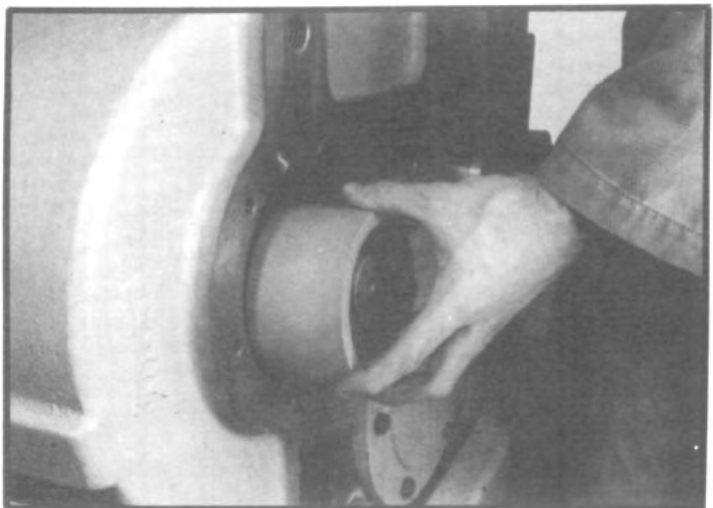

Fig. 29
9. Withdraw spacer tube from input shaft through front bearing bore. (See fig. 29.)